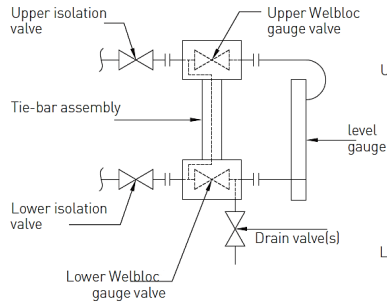

FIGURE 2A
5.2.1 Gauges with Tie-Bar, Welbloc Gauge Valves and Isolation Valves (Figure 2A)